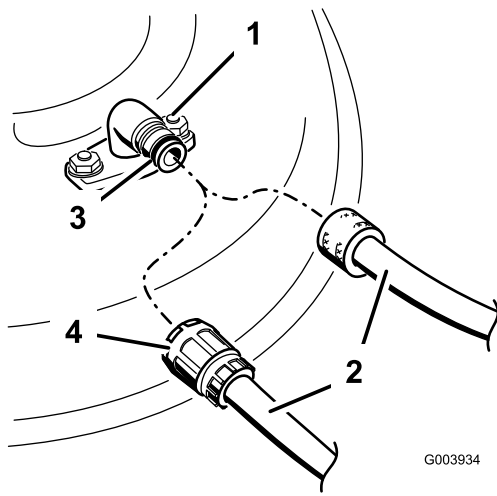

Figure 57
3. Attach the hose coupling to the end of the mower washout fitting, and turn the water on high (Figure 57).